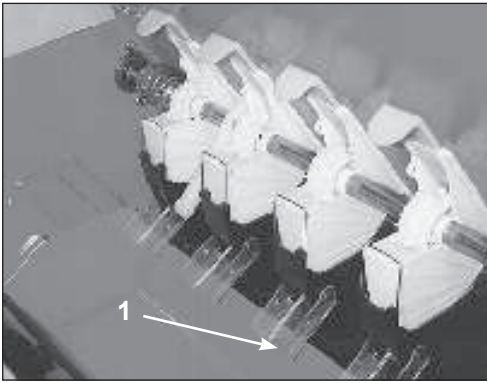

fig 11
- 2 Position all the clear plastic seed diverters to redirect the seed into the calibration trays as in Fig 11/1.